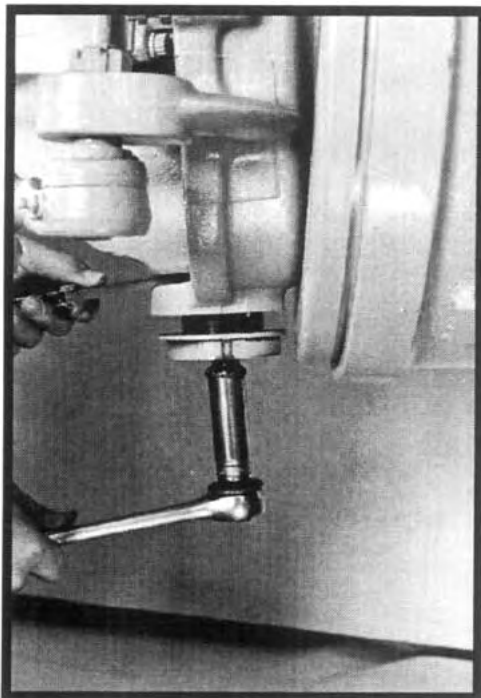

Figure 5
- Place a stack of feeler gages in the gap between the suspension and spindle yokes in the area of the lower kingpin ball stud. The gages should fit snugly. See Figure 5.